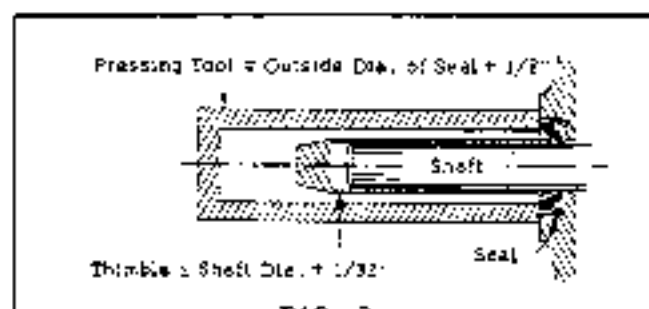

FIG. 2
3. When installing the seal, it is advisable to use a thimble that will fit over the shaft as shown in Fig. 2. This will aid in stretching the spring element in the seal to allow it to slide over the shaft, and at the same time will protect the seal from damage or cutting by the edges of key-ways. **NOTE:** The thimble should be long enough to protect the